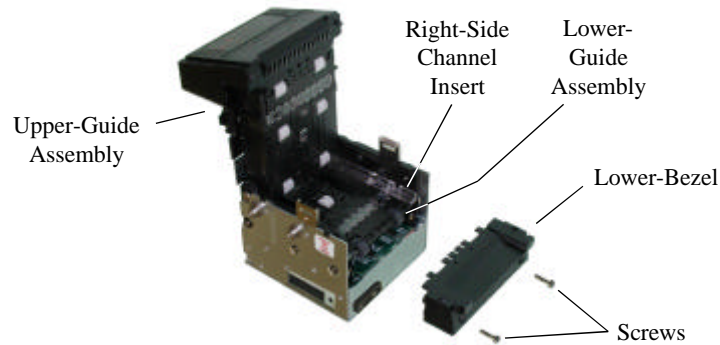

Figure 9. ARGUS-B Validator Head – Lower-Bezel Disassembly
1. Open the Currency Validator by releasing the spring-loaded latches and swinging out the Upper-Guide Assembly, exposing the currency channel with its optical system and magnetic head (**Figure 9**).